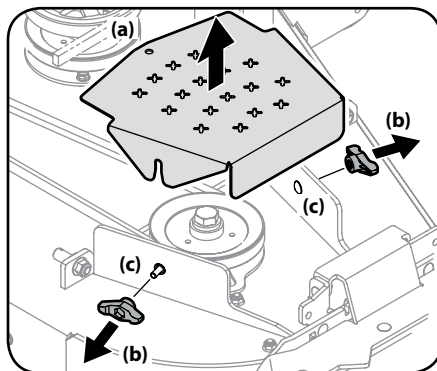

Figure 4-15
3. To remove the belt covers (a), remove the wing knobs (b) from the carriage screws (c) securing it to the deck. See Figure 4-15.
4. The speed nut should hold the carriage screw (c) and tab bolt in place, if not re-install as shown in Figure 4-15.